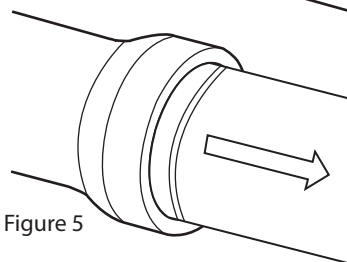

Figure 5
5. Reverse the assembly force. (Fig. 5) Apply a setting force in the opposite direction of assembly to engage teeth. Up to 0.25" of extension can be expected to set teeth. If the joint does not assemble properly, disassemble it and check for debris, proper positioning of the gasket, and adequate lubrication.